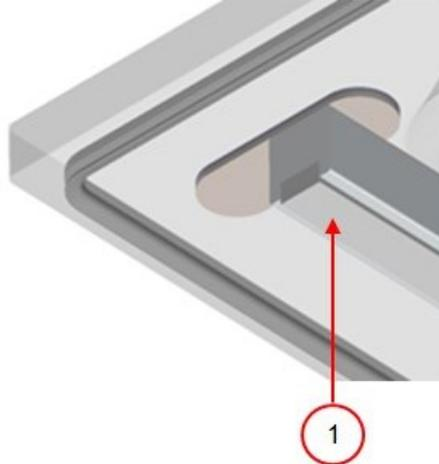

Figure 21: Replacing the Silicone Rubber of the Silicone Holders
1. Pull the old silicone rubber from the holder, see *Figure 21: Replacing the Silicone Rubber of the Silicone Holders* on page 41.